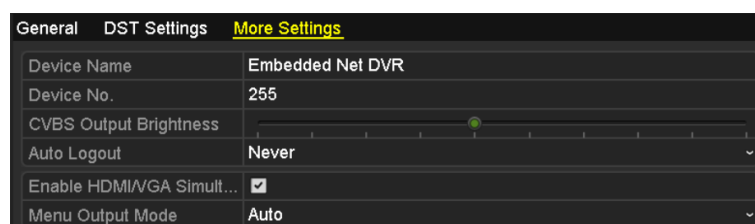

Figure 15. 4 More Settings Interface
2. Click the **More Settings** tab to enter the More Settings interface, as shown in Figure 15. 4.